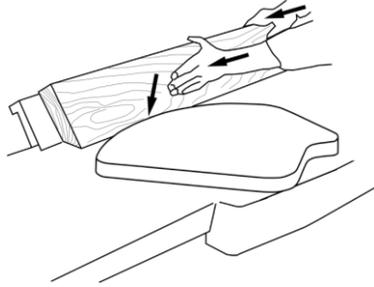

Figure 32
5. Feed the stock through the cutterhead, making sure the face of the stock is completely flat against the fence and the edge is making solid contact on the infeed and outfeed tables (Figure 32).